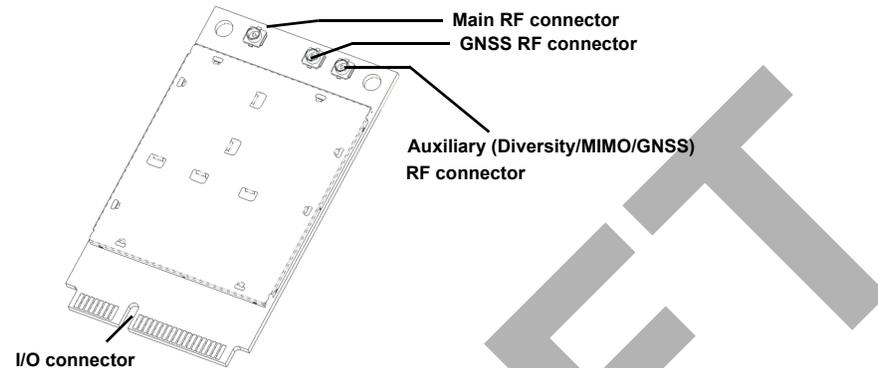

Figure 3-1: Module Connectors (Preliminary shield design, subject to change)
- Use Hirose U.FL connectors (3 mm x 3 mm, low profile; model U.FL #CL331-0471-0-10) to attach antennas to connection points on the module, as shown in Figure 3-1 on page 29.
- Connect to system ground using the two mounting holes at the top of the module (shown in Figure 3-1 on page 29).